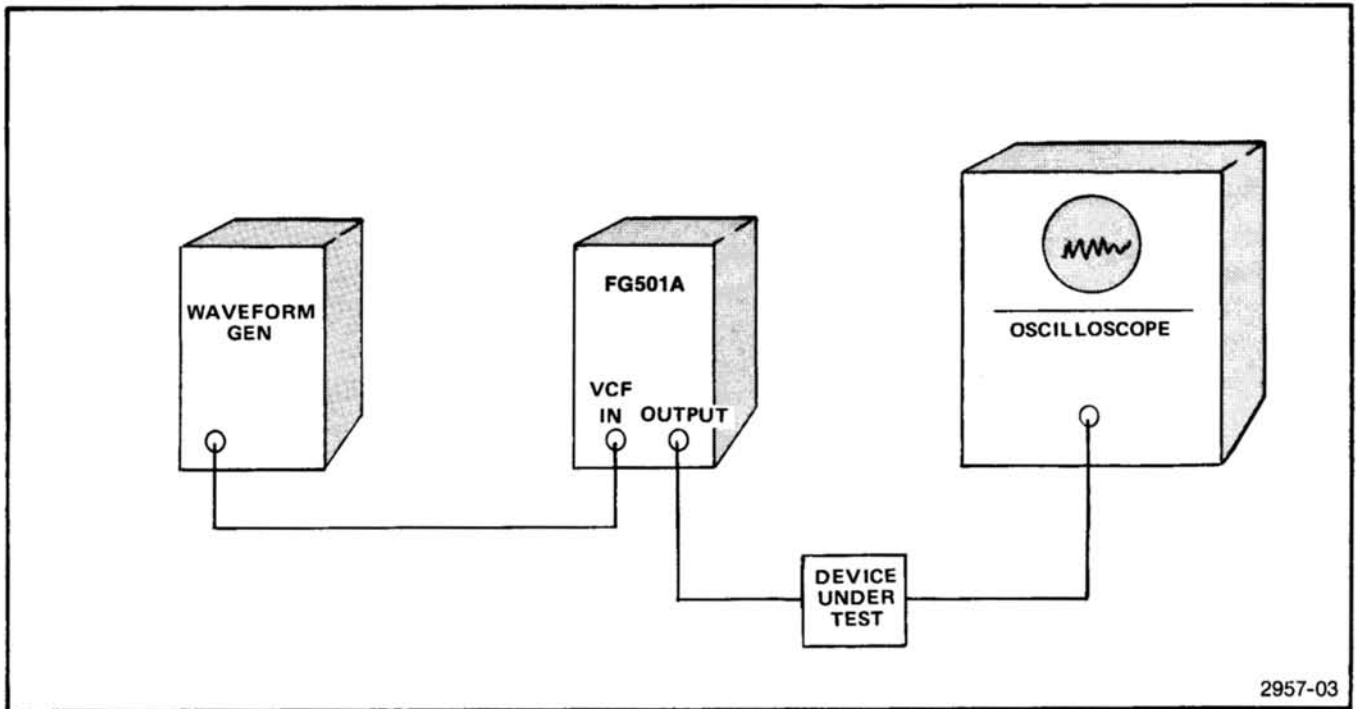

Fig. 2-11. Analyzing circuit or system response.
1. Connect the equipment as shown in Fig. 2-11.